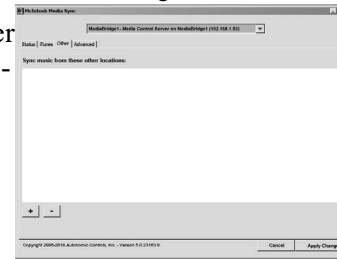
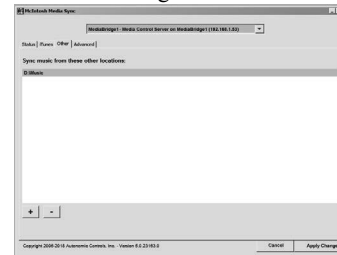

Figure 62
Figure 64
13. Referring to figures 62 and 63, select the “OTHER Tab” to add other (non-iTunes) music on the computer (or from other components connected to same Network as the MS500). To add Folders that contain Music, click the “+” button and then select the desired Folder containing the music you want the MS500 to be able to playback. To add more folders repeat the same procedure. When all the folders have been selected, click on the “Apply Changes” button to start the process of copying the selected music track onto the MS500. Refer to figure 64.